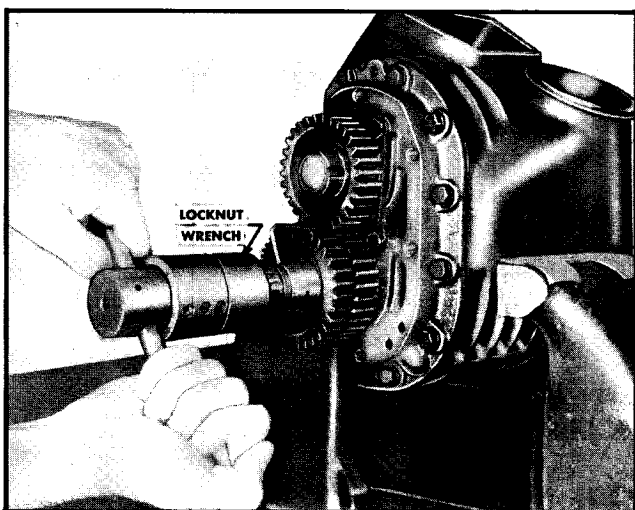

Fig. 10-5. Removing rotor shaft locknuts
1. With a small screw driver, raise the lockwasher flange clear of the slot in the rotor shaft locknut. With a special locknut wrench, remove the rotor shaft locknuts. See Fig. 10-5. Use a piece of soft metal (brass or copper) wedged between the timing gear teeth to lock the gears while loosening the locknuts.